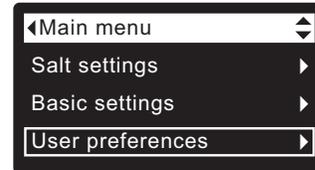

FIG. 53
1. From any of the rolling status screens, press the SELECT (O) button to display the **Main menu**.
2. Press the DOWN (▼) button to scroll through the menu options until **User preferences** is highlighted (See Figure 53).